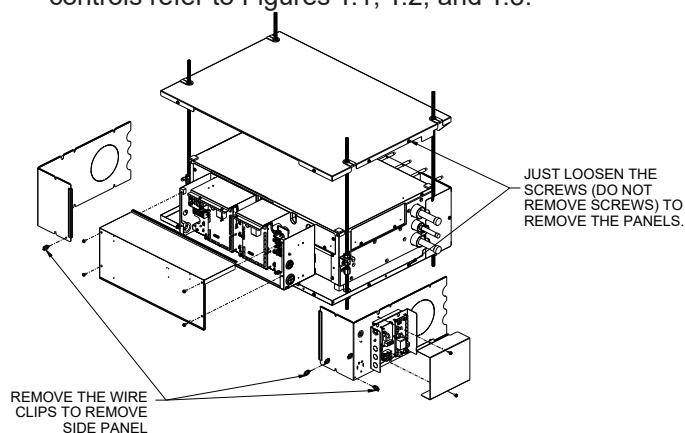

FIGURE T.1
- To gain access to the serviceable components and controls refer to Figures T.1, T.2, and T.3.